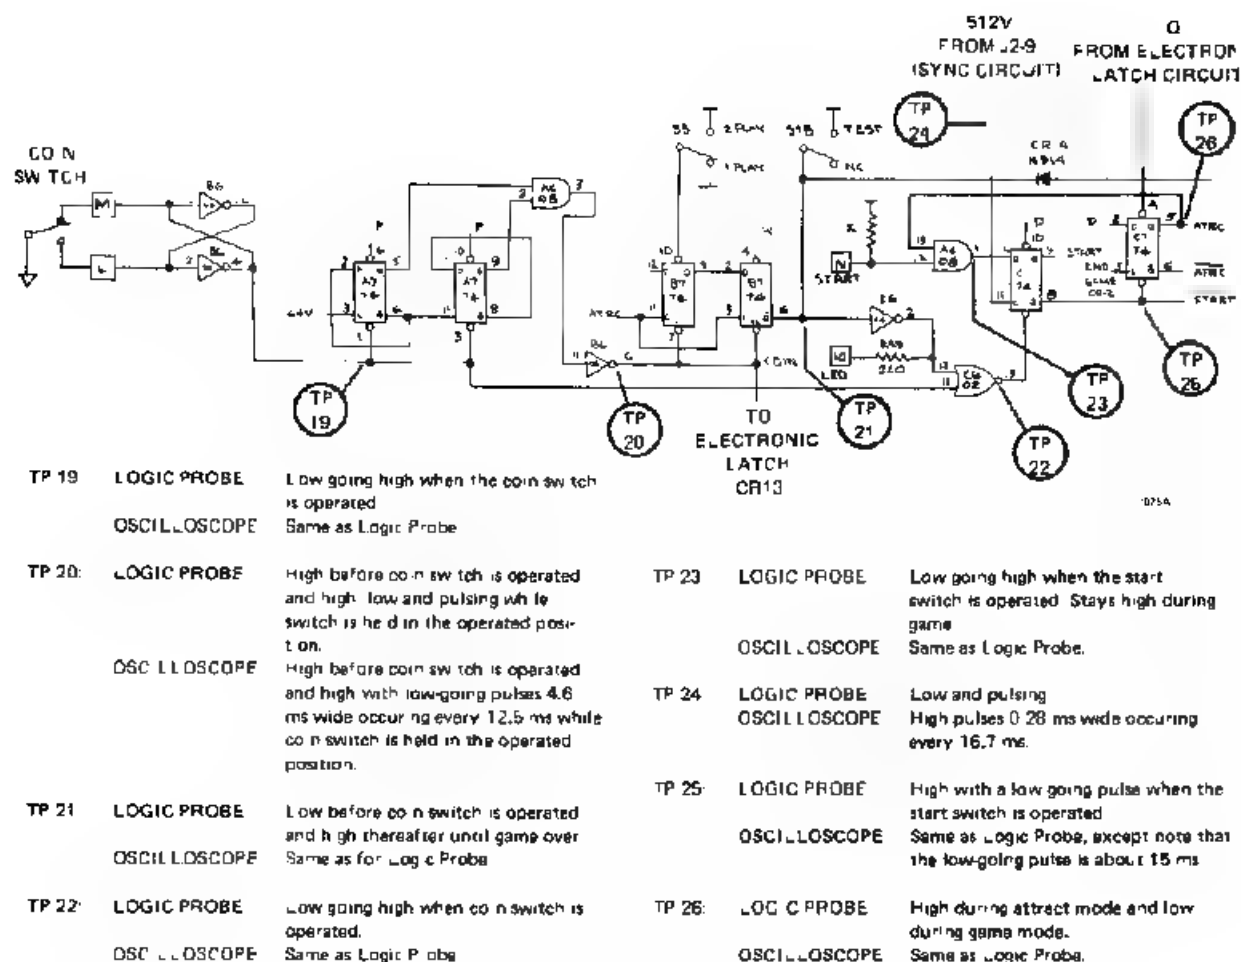

Figure 2-4. The Credit and Start Circuit
**2-16.** The control of game credit is accomplished by the presetting of the attract flip-flop C7-5 (see the credit and start circuit, Figure 2-4). Whenever the output of the latch circuit, signal Q, is high, the attract signal (ATRC) will also be high. If ATRC goes high, the computer is reset back to the ATTRACT mode and the game ends. In order for the game to begin, the electronic latch must be "latched" and signal Q must be low.
2-20. The credit portion of this circuit records the deposit of the coin and lights the credit lamp (LED). This provides game credit to the start circuit which is operated by the player to reset the PCB and begin the new game. The circuit is shown in Figure 2-4.